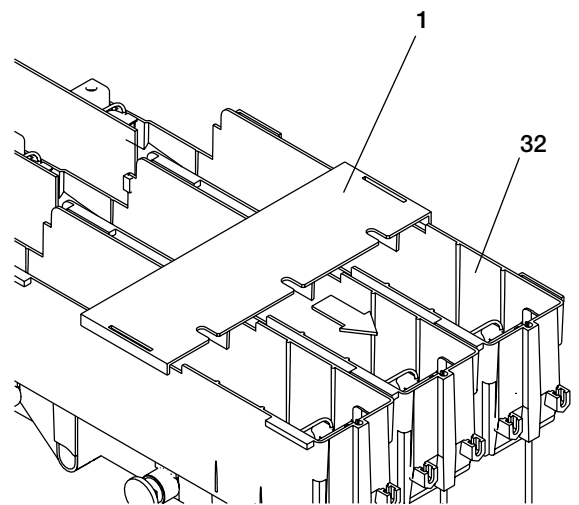

Fig. 6b
b) Montaggio del diaframma isolante (fig. 6b)
- Only position the grub screws (54) as shown in the drawing.
b) Assembling the insulating partition (fig. 6b)